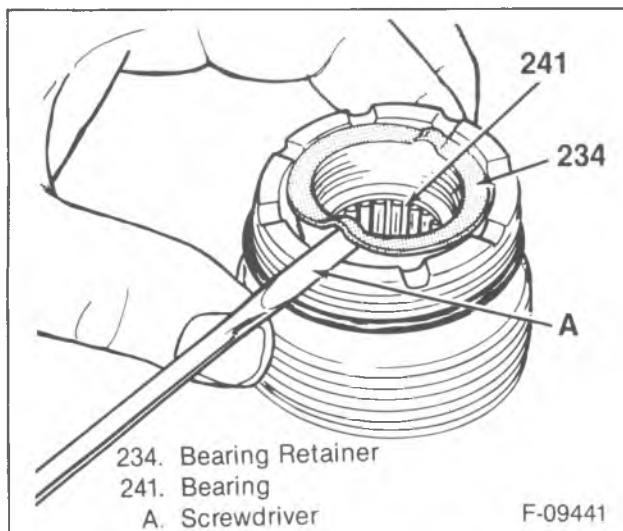

Figure 7—Removing the Bearing Retainer
- Bearing retainer (234). Pry the retainer with a screwdriver at the raised area (figure 7).